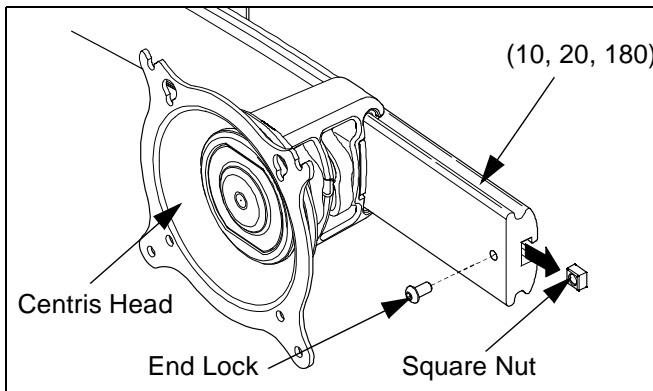

Figure 8: Remove End Lock(s)
1. Uninstall end lock using the 5/32" hex key (80). (see Figure 8)